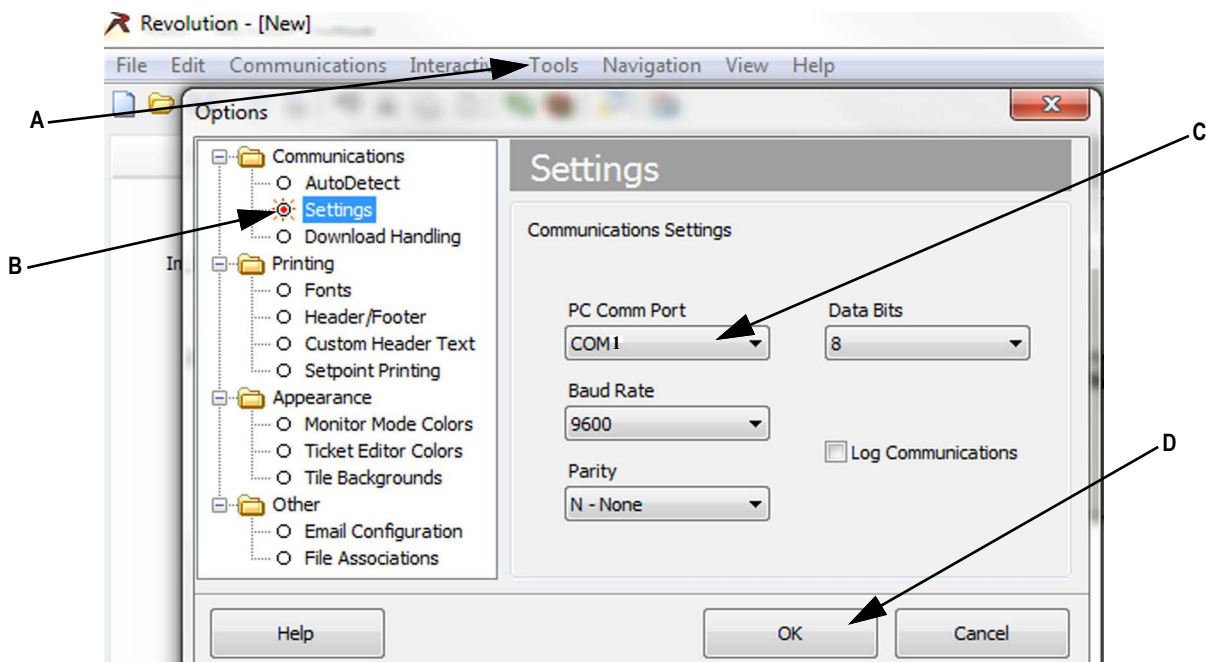

Figure 4-4. Options Screen to Select Comm Port for USB
- Go to Tools/Options (Figure 4-4 A) and select Settings (B), then choose the PC Comm Port (C).
- Click **OK** (Figure 4-4 D).